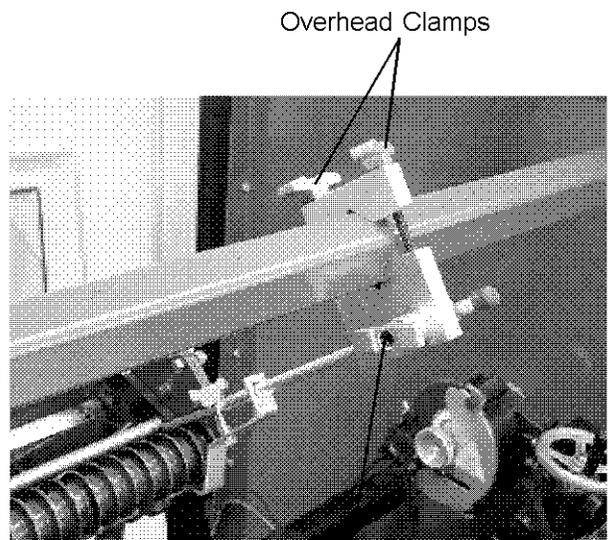
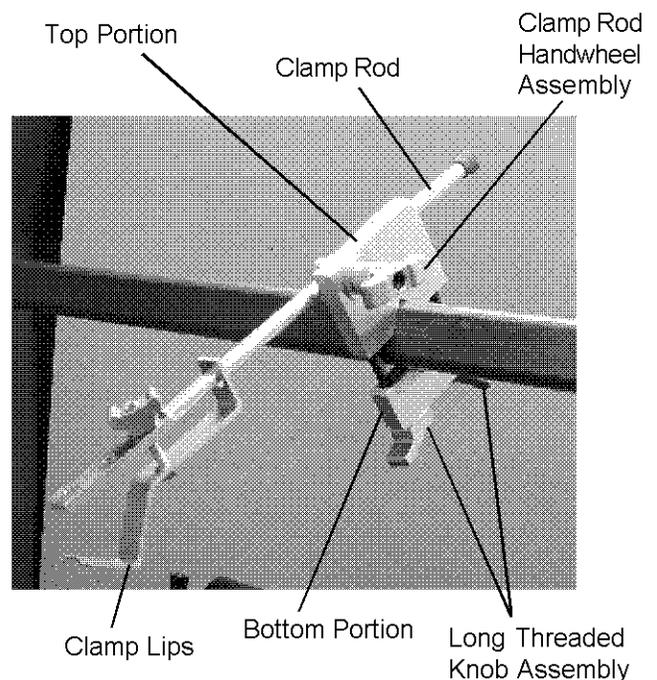
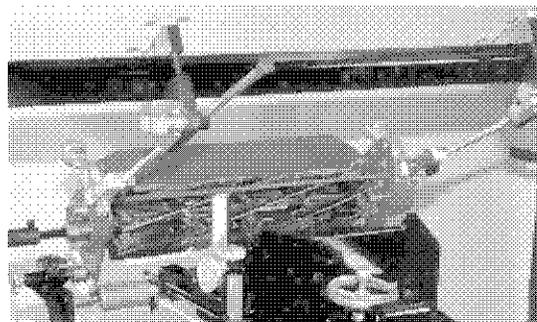

FIG. 30
FIG. 31
FIG. 32
Loosen the two (2) screw handles on each overhead clamp and move them to where the overhead clamp rods with or without clamping lips can be attached to the mowing unit. Tighten the clamping lips to the mower, then securely tighten the two (2) locking handles on each overhead clamp. See FIG. 30 and FIG. 31.
The overhead clamps can be mounted with the clamping rod above the tubing cross bar as shown in FIG. 31 or they can be mounted with the clamp rod under the tubing cross bar as shown in FIG. 32. It is recommended to mount them under the tubing cross bar whenever possible.